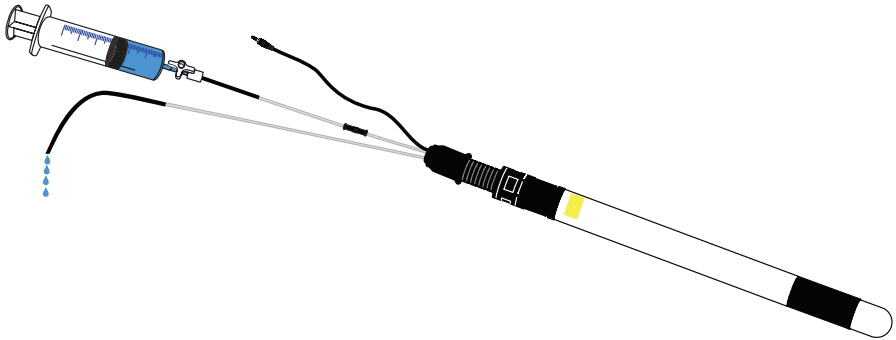

Figure 15 Teros 32 refilling
9. For a downward installation, connect the syringe to the marked refilling tube from TEROS 32 (Figure 15).
Continue to push the water into the sensor until only water comes out of the other refilling tube (Figure 15).